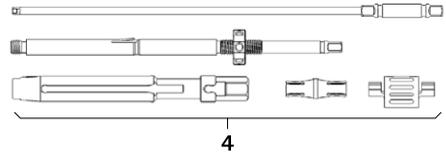

Fig. 9
- ▶ Mount reduction lever 4, see Fig. 9.